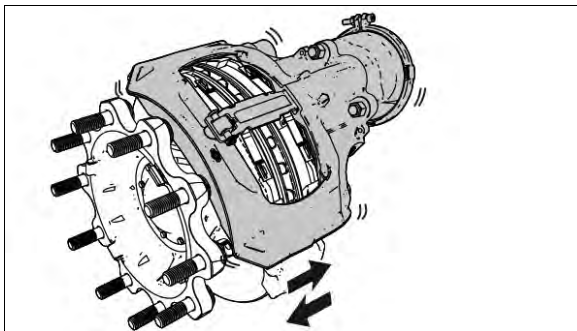

Figure 44: running clearance
3. By pushing and pulling the caliper in an axial direction by hand (see arrows in Figure 44), a movement of 0.6 - 1.1 mm must be possible.